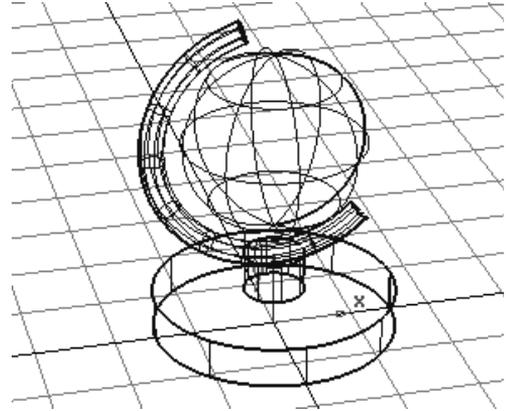

Figure 2-105 Globe created after scaling the sphere
2. Enter **225** in the promptline and press ENTER; the globe is scaled uniformly along the X, Y, and Z axes, as shown in Figure 2-105.